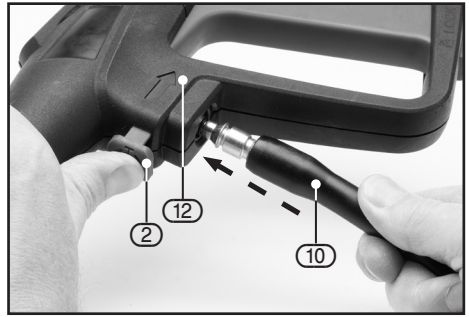

FIG.9
8.4 ATTACHING THE HIGH PRESSURE HOSE – FIGS.9 – 10
- To connect the high pressure hose (10) to the trigger assembly (12), push-fit the hose connector into the inlet on the assembly.
- Disconnection of the hose is achieved by pressing the hose release button (2).
- Insert the other end of the hose (10) into the high pressure outlet (13) and screw the shrouded end of the hose onto the threaded outer section of the pressure outlet, taking care not to cross the threads.